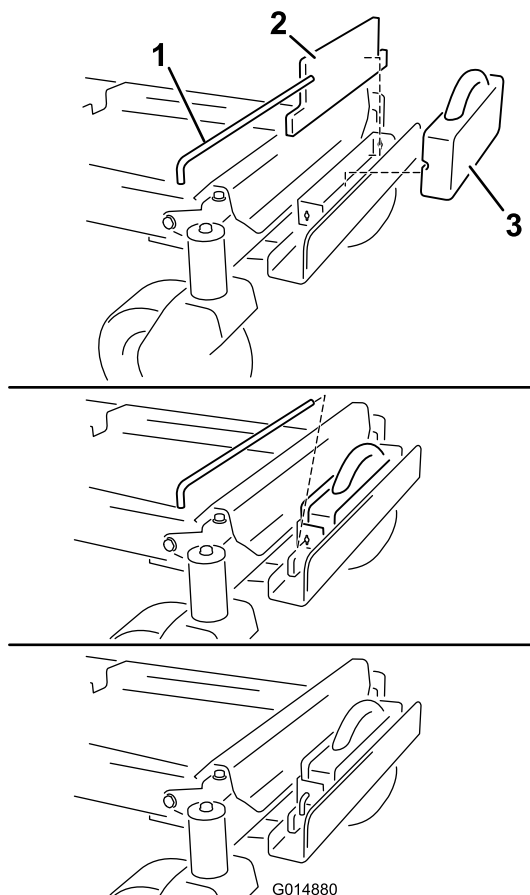

Figure 11
9. Install a flat weight to the weight bracket and move it rearward, flush with the bracket (Figure 11).
10. Install a suitcase weight in front of the flat weight (Figure 11).
11. Secure the weights to the weight bracket with a keyed crossbar (Figure 11). Install the bar and rotate it 90 degrees downward to lock it in place.